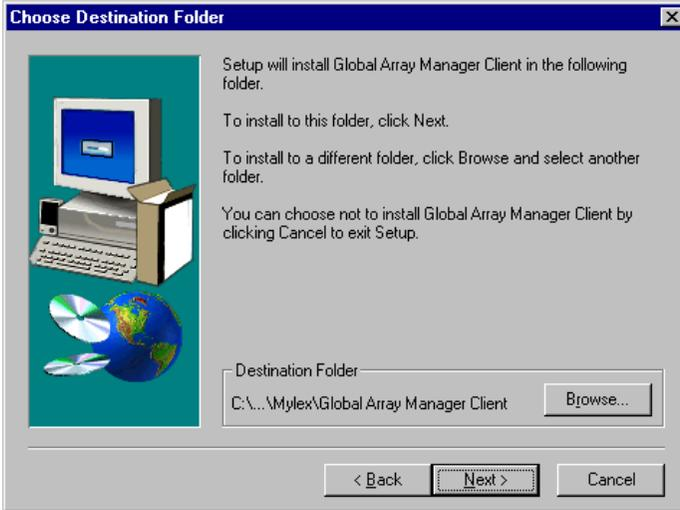

Figure 2-7. Destination Folder for Global Array Manager Client
The Choose Destination Folder dialog box is displayed (Figure 2-7).
1. In the Destination Folder area in Figure 2-7, the suggested directory path for installation of GAM Client reads: